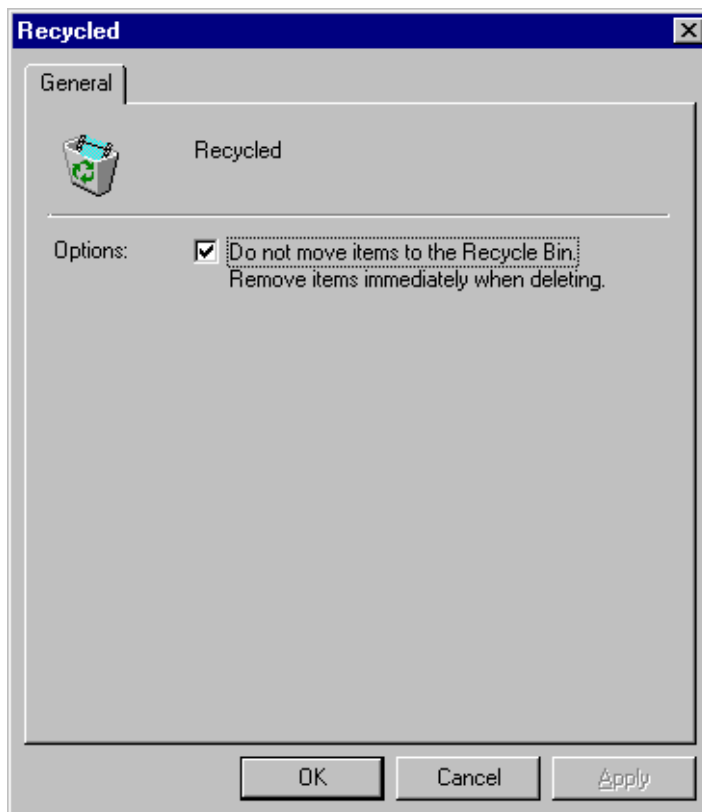

Figure 25. Recycled Bin properties dialog box
2. Choose **Properties** with the right-click or from the **File** menu. The Recycled Bin Properties dialog box appears (see Figure 25).